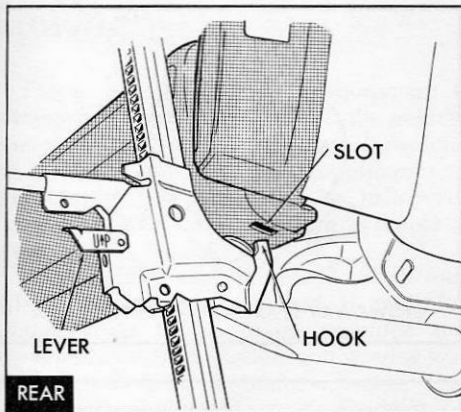

FIG. 3-5: JACK POSITION —
- Jack Position - Rear: Insert jack hook into small slot in bottom surface of bumper directly below outer end of tail lamp, Figs. 3-5 or 3-7.